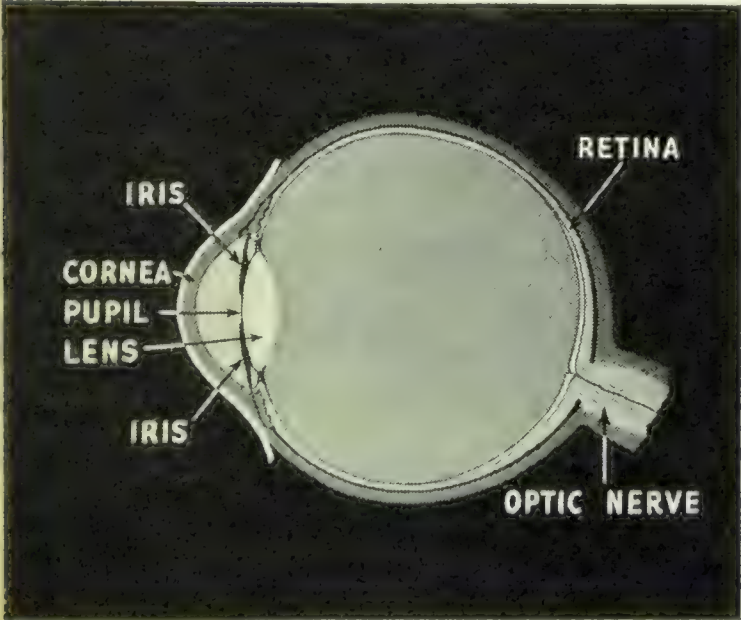

FIG. 473. Diagram of the eye
**H**OW DO WE SEE? You already know that the eye has a lens. It works just like any other double-convex lens. Rays of light are bent and brought to a focus on a thin coat, called the *retina* (Figure 473), which lines the inside of the eyeball. Perhaps you wonder if the images formed on the retina are upside down. Yes, they are. Our brain, however, interprets these images
This brings us to the question, How can the lens in the eye bring objects at different distances into focus? If you will look at Figure 473, you will see that the lens in the eye is attached at the edge with fibres. At the outer ends of the fibres is a muscle in the form of a circle all the way around the inside of the eyeball. The lens itself is made of a somewhat flexible material that can change its shape. The muscle is attached in such a way that the pull on the fibres to the lens can be changed. When the muscle is relaxed, or loose, the eyeball tends to pull out on the fibres and make the lens flatter and less convex. When the muscle contracts, the fibres are loosened, and the lens becomes thicker in the centre, or more convex.